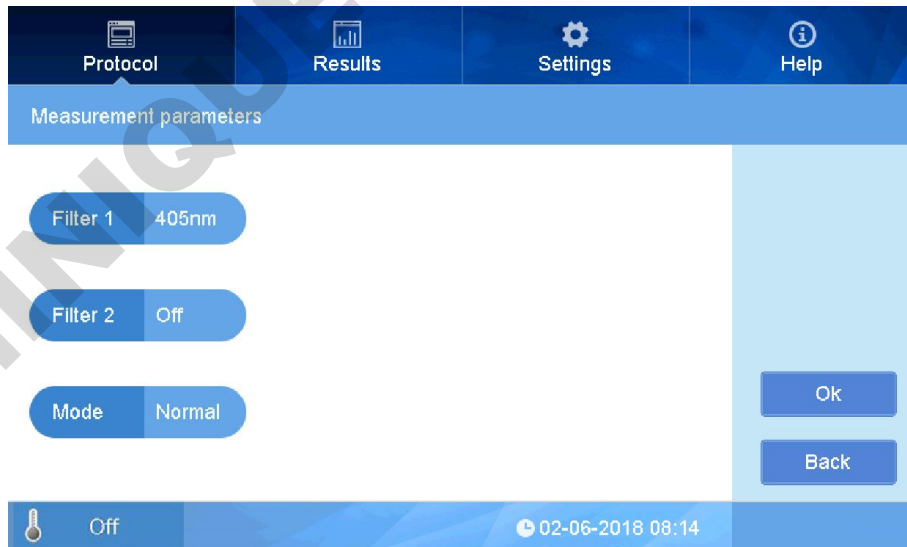

fig 12
- On interface “protocol”, click blank area near “Measure” to set parameters(Fig 12).